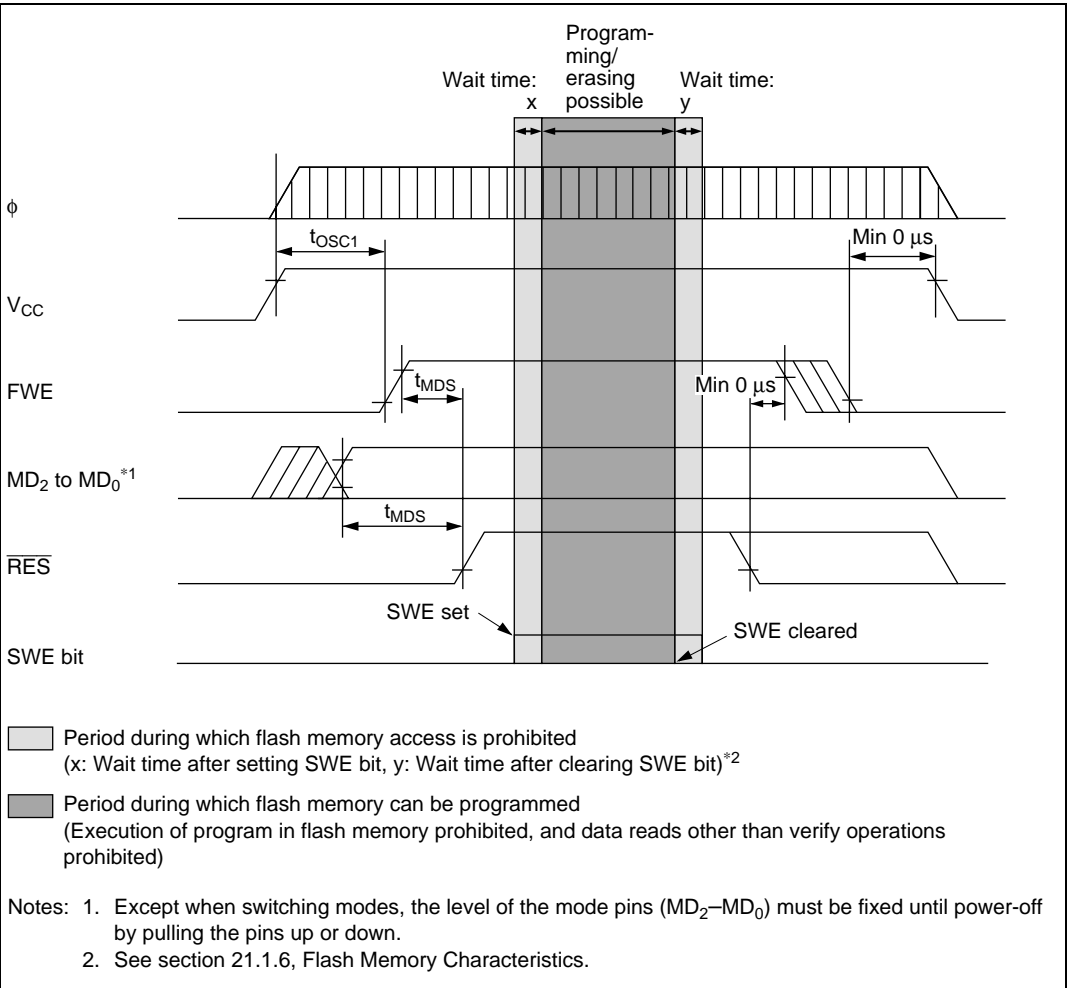

Figure 18.16 Power-On/Off Timing (Boot Mode)
2. Powering on and off (see figures 18.16 to 18.18)